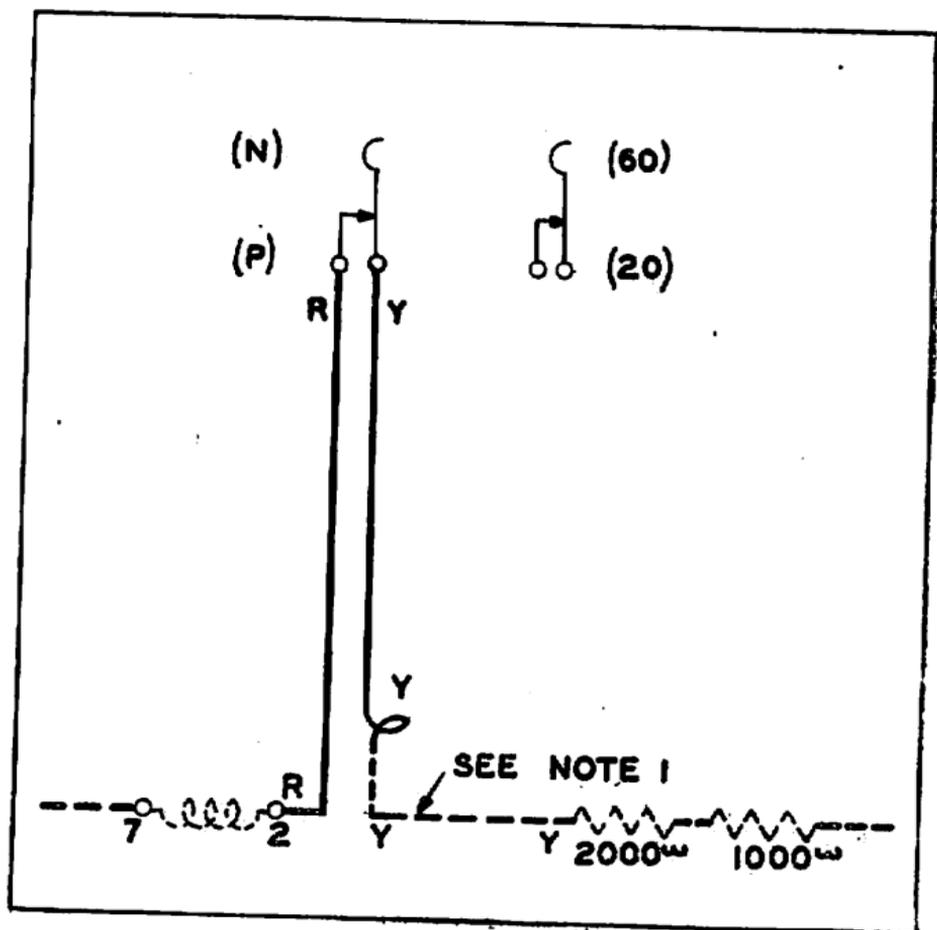

Fig. 2
2.06 When only the polar-neutral switch is required omit Paragraph 2.03 and make wiring connections as shown on Fig. 2.